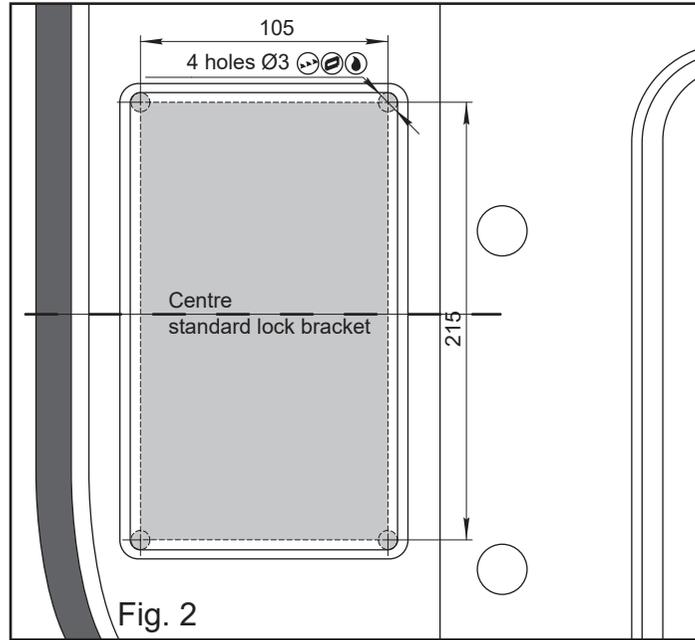

Fig. 2
To do this, transfer the centre of the standard lock bracket to the inner surface of the C-pillar (Fig. 2).
3. Drill a Ø3 mm hole in the corners of the cut-out (Fig. 2).